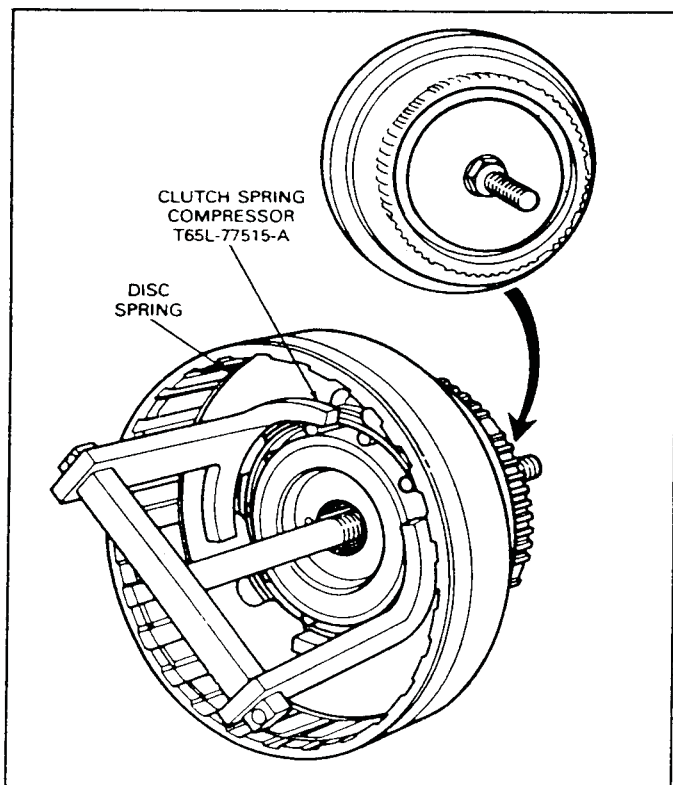

FIG. 49 Removing or Installing Disc Spring
4. Make sure that the steel pressure ring is in the groove on the piston. **Position the disc spring in the cylinder with the dished face downward.** Install the spring as shown in Fig. 49 so that the